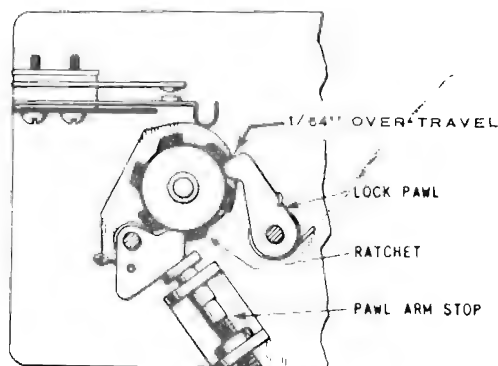

Figure 3.
1. The Pawl Arm Stop limits the rotation of the credit switch when the Cancel Solenoid plunger returns to normal rest position. It should be adjusted so the credit switch rotates far enough to allow the Lock Pawl to fall into the ratchet and have approximately $1/64''$ over-travel. The adjustment must be checked at all six positions of the credit wheel and the ratchet. After adjustment, set the lock nut tight. See figure 3.